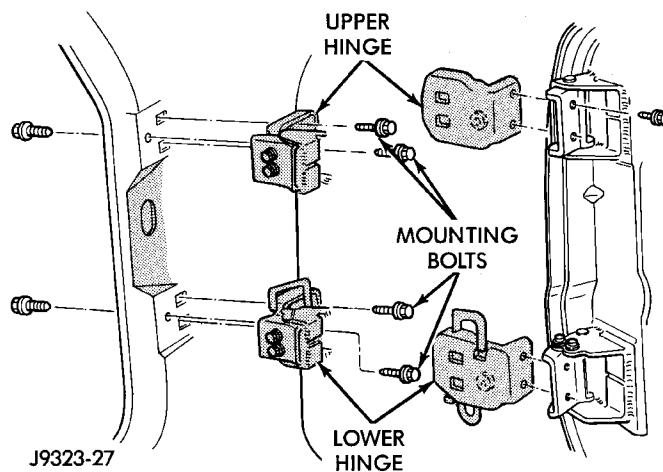

Fig. 15 Door Hinges and Bolts
- (1) Remove trim panel.
- (2) If equipped, disconnect power window regulator, power door lock motor and all other wire harness connectors.
- (3) Slide wire harness out of boot and door.
- (4) Mark an outline around door hinges for installation alignment reference.
- (5) Remove door hinge, retaining bolts, plates and shims (Fig. 15).
- (6) Identify and retain door hinge plates and shims for correct installation.
- (7) Separate door from vehicle.